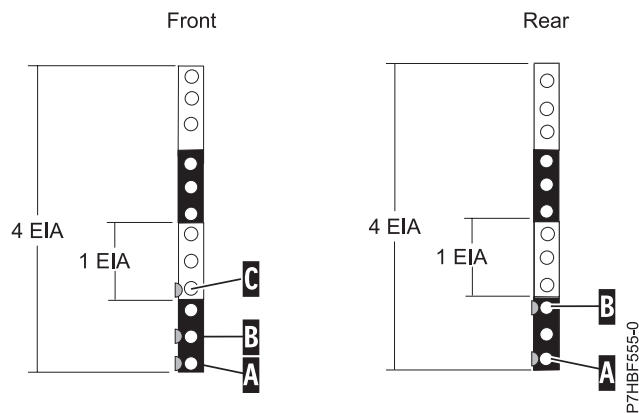

Figure 3. Marking holes on the front and rear of the rack frame
1. Facing the front of the rack and working from the right side, locate the bottom EIA unit that your expansion unit uses. Make a note of the EIA location. Use a tape, a marker, or a pencil to mark the bottom hole of this EIA unit as **A** as shown in Figure 3. Mark the rack so the mark can also be seen from the rear of the rack.
2. Beginning with the hole identified by the mark **A**, count up one hole and place a second mark **B**. Mark the rack so that that mark can also be seen from the rear of the rack, as shown in Figure 3.
3. Beginning with the hole identified by the mark **B**, count up two holes and place a third mark **C**, as shown in Figure 3.
7. Beginning with the hole identified by mark **A**, count up two holes and place a second mark **B**, as shown in Figure 3.